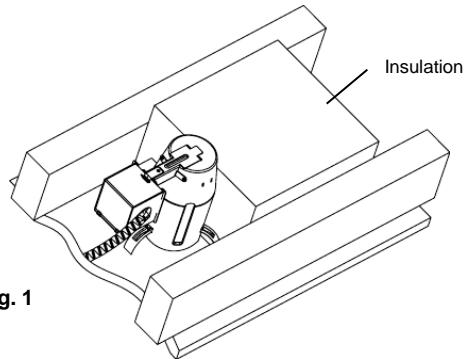

Fig. 1
NOTE: This fixture is an IC type fixture. It may come in direct contact with thermal insulation. It can be completely covered by thermal insulation, as shown below. In addition, any part of the fixture may come in direct contact with any combustible material, such as a ceiling joist or floor board. (FIG. 1)
2. Clear out any insulation necessary to maintain the 3" (7,6 cm) spacing specified in the "CAUTION" section found in the beginning of these instructions. (See Fig. 1)